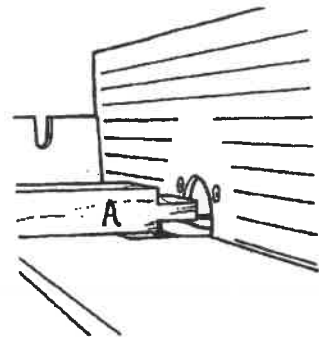

Fig. C-8
10. Turn on the Dust Collector and router. Make a pass with the same workpiece in the same position as before. Turn off the router and Dust Collector. This cut forms the second shoulder of the tenon. See Fig. C-8.